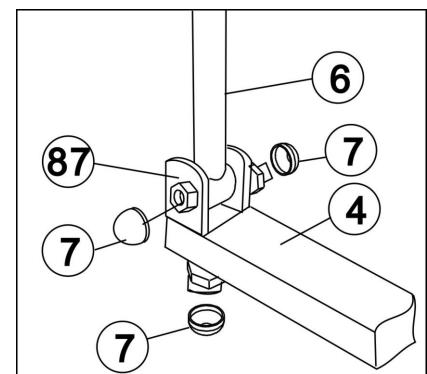

Figure 10
After installed and adjusted the equipment, at the connecting of U-shape bracket (87), pedal support tube (4) and pulling pole (6), clip on the cap nut (7). (Refer figure 10)